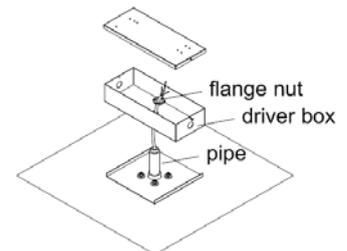

Fig. 3
3. One side of the pipe thread on the fixture, the other side insert to the driver box and secured by flange nut. See fig. 3.